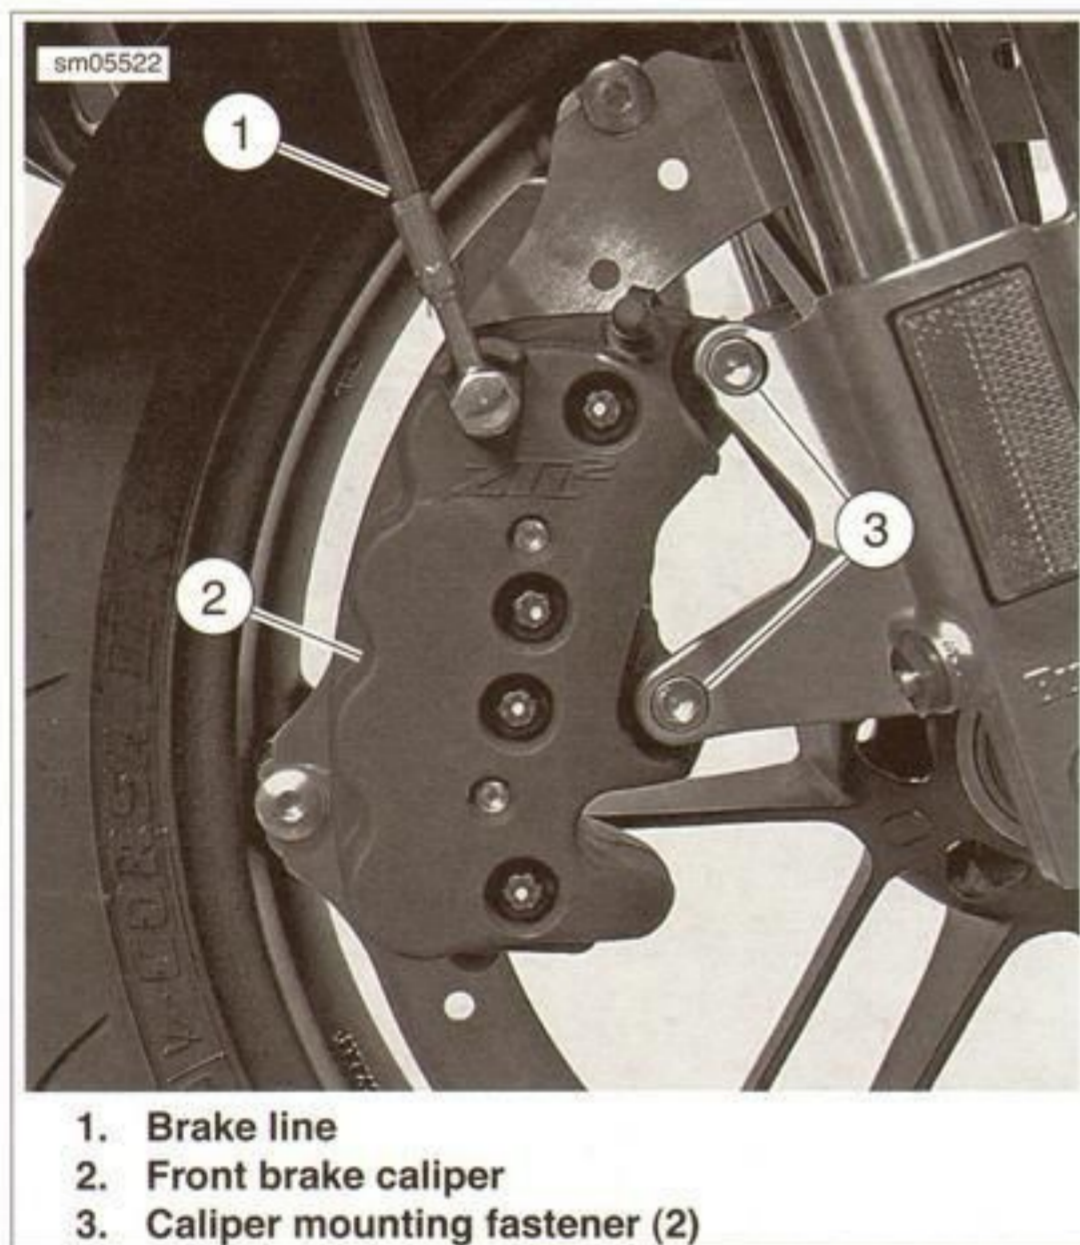

Figure 2-62. Front Brake Caliper Mounts
2. See Figure 2-62. Disconnect brake line (1) at caliper (2).
3. Remove caliper mounting fasteners (3).